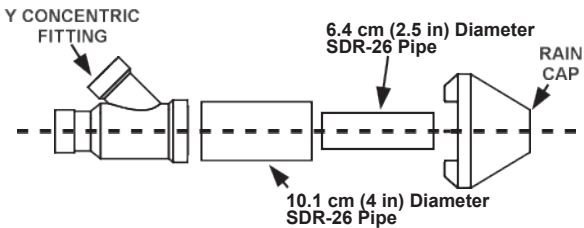

Figure 30. Concentric Termination Components 2" Kit
- Cement the Y concentric fitting to larger diameter kit pipe, see **Figure 30** (page 32).
- Cement the rain cap to the smaller diameter kit pipe. See **Figure 30** (page 32).
Note: If assembly needs to be extended to allow side wall thickness requirement, the 2 pipes supplied in the kit may be replaced by using same diameter, field-supplied SDR-26 PVC (D2241) pipe. Do not extend 21 1/8" (53.6 cm) dimension more than 60" (1.5 m). See **Figure 30** (page 32).